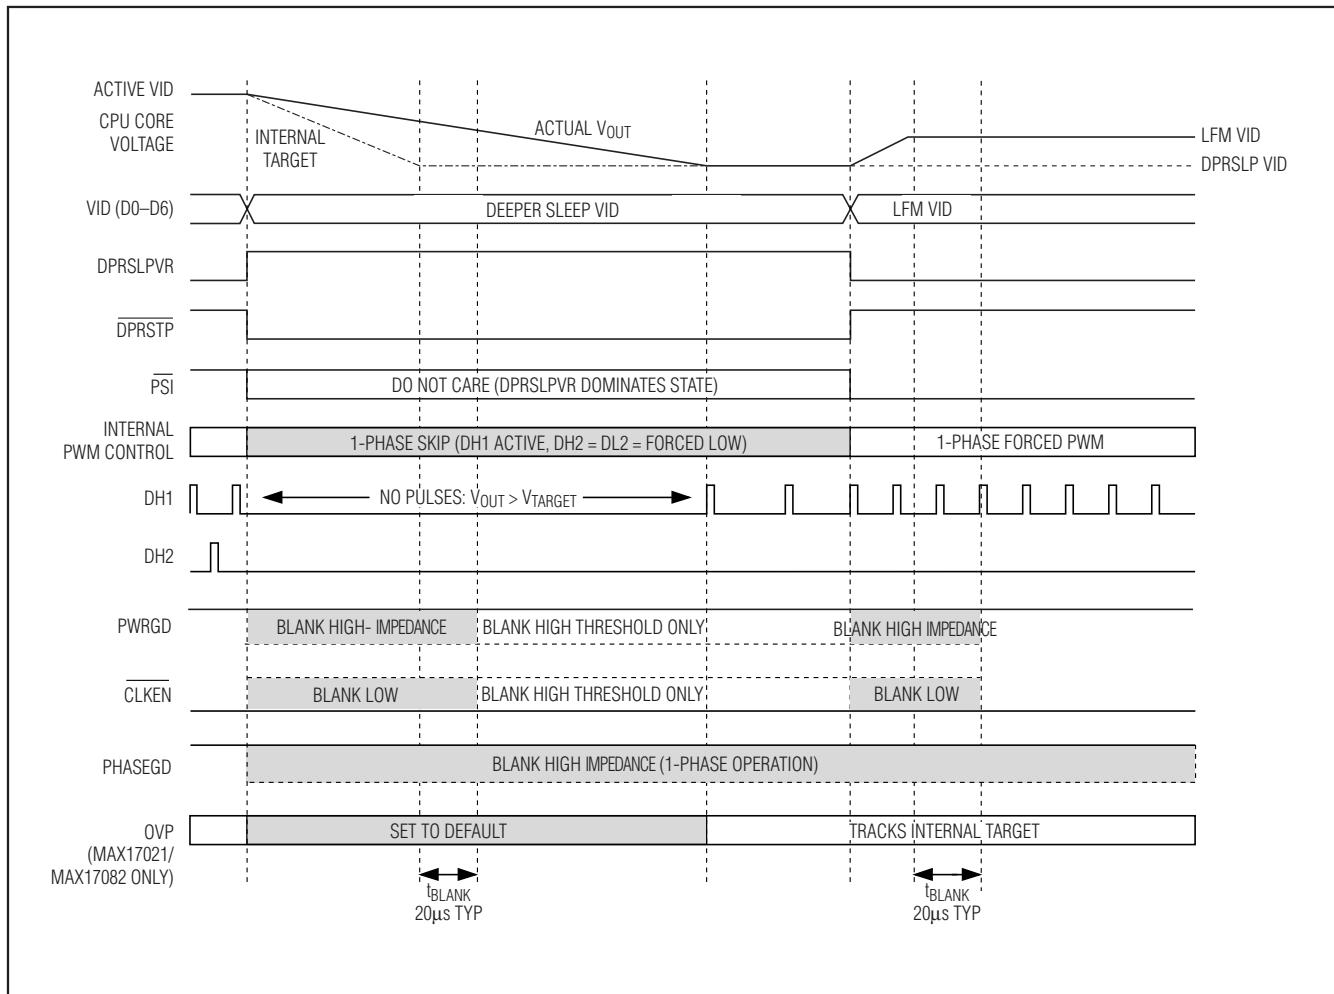

Figure 6. Standard C4 Transition
• **Standard C4 Deeper Sleep Exit:** When exiting deeper sleep (DPRSLPVR pulled low) while the output voltage is regulating to the deeper sleep voltage, the MAX17021/MAX17082/MAX17482 immediately activate all enabled phases and ramp the output voltage to the LFM DAC code provided by the processor at the slew rate set by RTIME. The controller blanks PWRGD, PHASEGD, and CLKEN until 20 μ s after the transition is completed. See Figure 6.